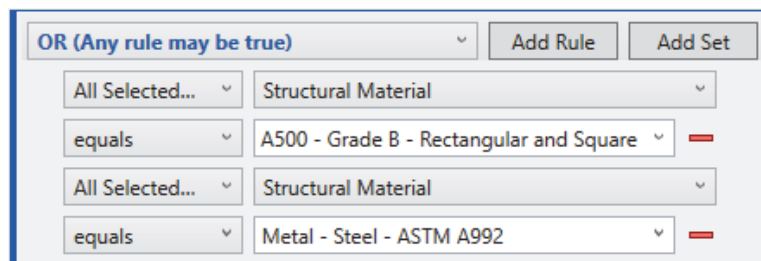

Figure 1–129
10. Modify the *Filter Rules* to **Structural Material - equals - Metal - Steel - ASTM A500 - Grade B - Rectangular and Square** and **Metal - Steel - ASTM A992**, as shown in Figure 1–129.